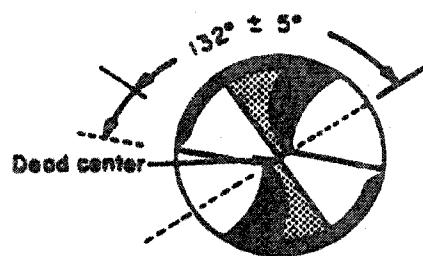

Figure 10.7. Drill Angles
- S. Angles: (See Figure 10.7)